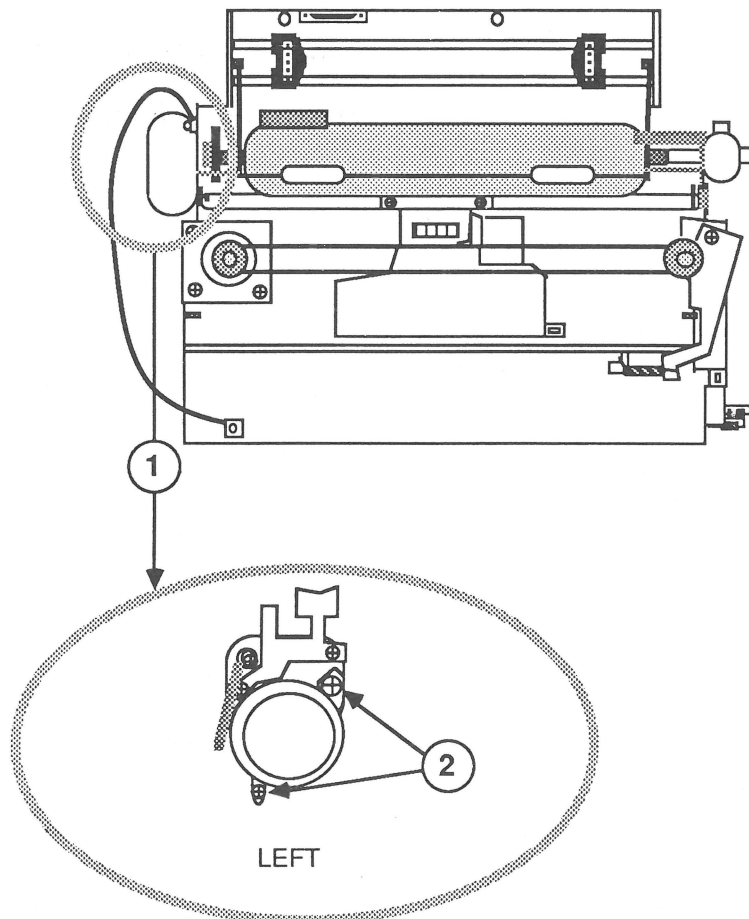

FIGURE 41
2. Locate the paper-feed motor (Figure 41, #1).
3. Remove the two screws that hold the motor in place (Figure 41, #2).
2. Replace the two screws that hold the motor in place (Figure 41, #2).